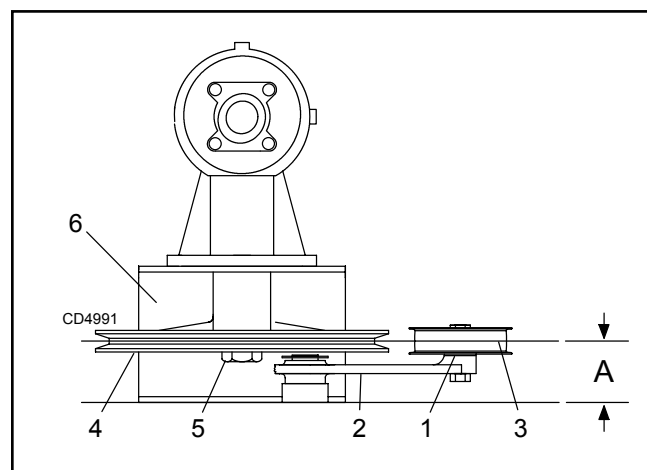

Figure 25. Drive Sheave Installation
1. Install drive sheave (2) and key (3) on gearbox output shaft.
2. Install sleeve (9), washer (4), and castle nut (5) on gearbox output shaft. Torque castle nut to 170 lb-ft. Install cotter pin (6) through castle nut and gearbox output shaft.
3. Slide gearbox onto gearbox stand. When gearbox is installed on mower, dimension A (from the top of mower deck to the center line of the drive pulley) must be 1-9/16" ($\pm 1-32$ "). This is a critical dimension and must be carefully adjusted for proper belt life. Add or subtract shim washers under idler sheave to align with drive sheave. See Figure 25.
4. Install carriage bolts (8) and new flange lock nuts (7) through gearbox base. Torque nuts to 175 lb-ft.